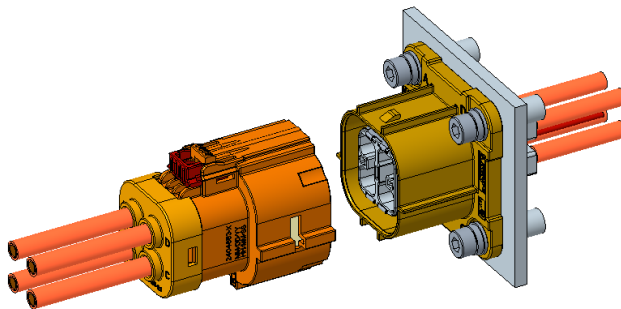

Figure 13
3. Pull the plug connector until it is fully separated from the header connector. See Figure 13.
拔出母端连接器，直到公母端连接器完全分离。见图 13。